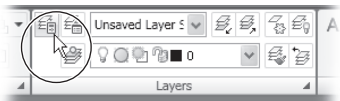

Figure 12.33
- 1. Click the Layer Properties Manager tool (shown in Figure 12.33) to open the Layer Properties Manager dialog box.